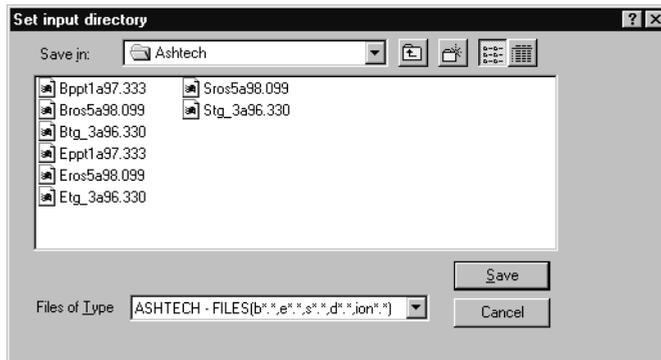

Figure B.7. Set Input Directory Dialog Box
- Click **Input dir** to open the **Set input directory** dialog box (Figure B.7).